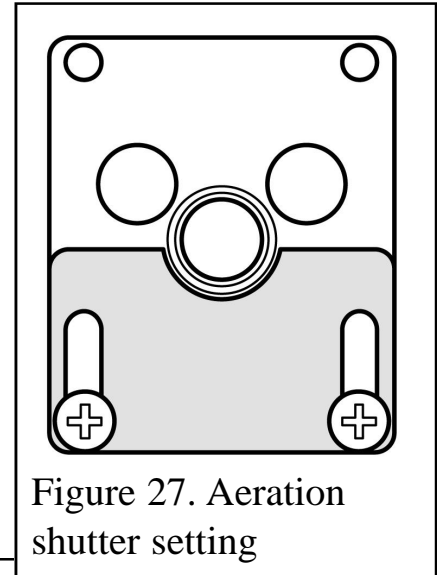

Figure 27. Aeration shutter setting
1. The aeration shutter is factory set and **will** require adjustment. **It is important to ensure that the aeration setting is correct (See figure 27).**
2. To adjust the aeration setting, loosen the two aeration shutter screws, slide the aeration shutter to the position shown in figure 27 and tighten the fixing screws.
2. Detach the microswitch cover by removing one screw and pulling clear of the location lug (See figure 27).